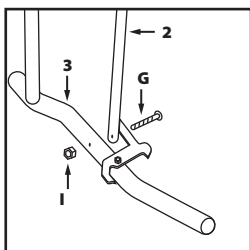

Fig. 4
- Attach component **2** to component **3** using fixings **G & I** from **BAG 3**. (Fig 4) Ensure component **2** is inbetween the latch & component **3**.